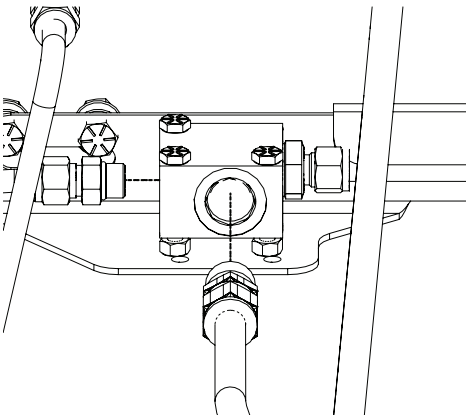

Figure 8: Disconnect the feed and vent fittings on the PRD.
4. Disconnect the two fittings (feed fitting and vent fitting) from the PRD block (Figure 8). The vent fitting and the vent line can be removed from the assembly and set aside for reconnection. The feed line can dangle.